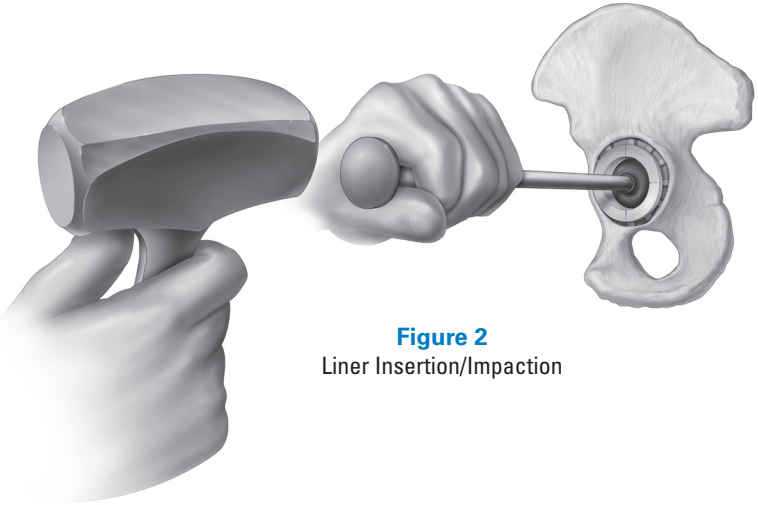

Figure 2
Step 3: Assemble the appropriate diameter **Novation Liner Driver Head** on the end of the **Keyed Liner Driver Handle**. With a mallet, strike the driving platform of the Liner Driver with one sharp blow (Figure 2). Once seated, the top surface of the liner will rest slightly above the level of the Acetabular Shell crowns and at a uniform height around the circumference of the implant construct.